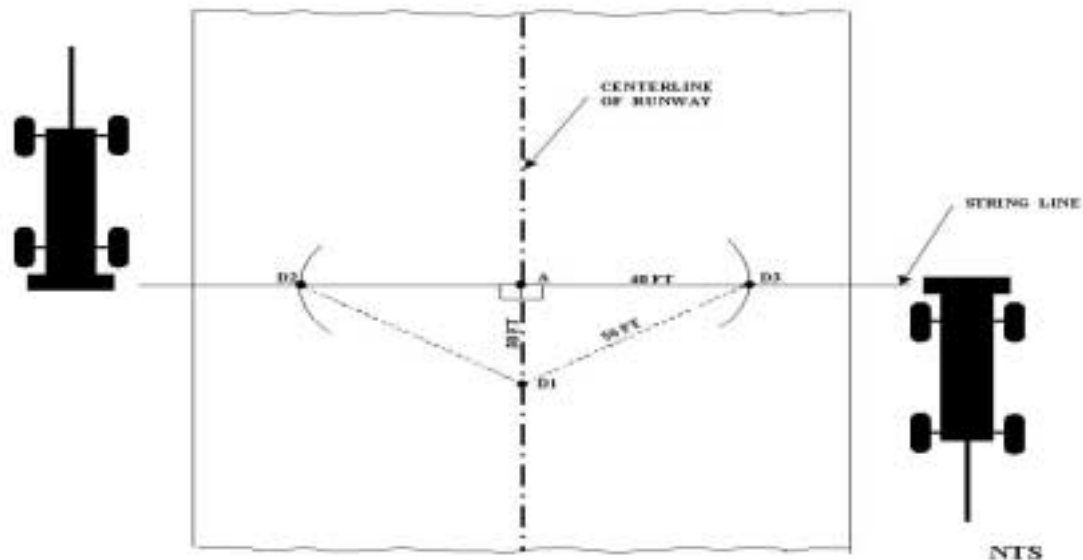

Figure 7, Taping Method
- **MAAS Taping Method** (Figure 7):